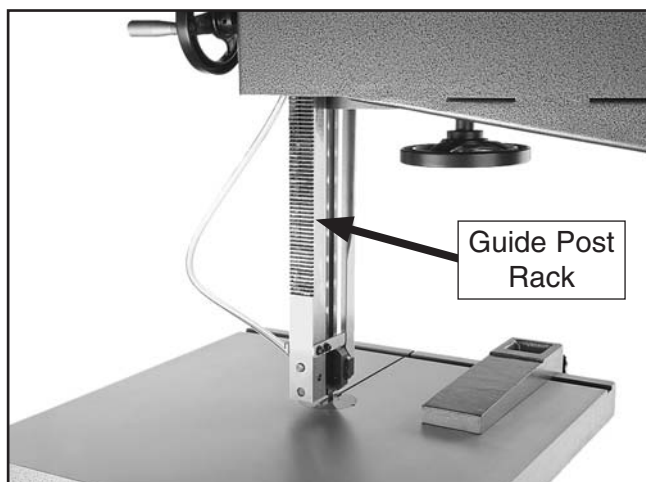

Figure 55. Guide post rack fully exposed.
1. Lower the guide post all the way down to fully expose the guide post rack (see **Figure 55**).